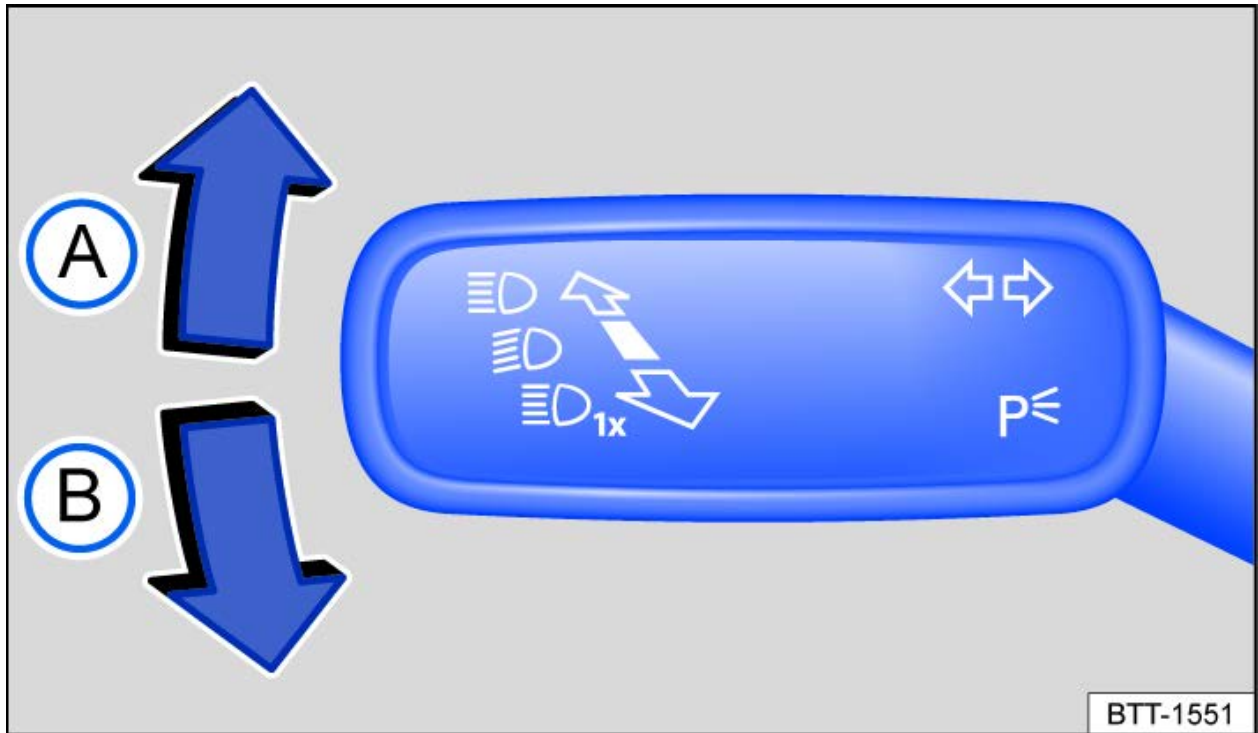

Fig. 1 On the left side of the steering column: turn signal and high beam lever.
- Move the turn signal and high beam lever from the center position to the following position → *fig. 1* :